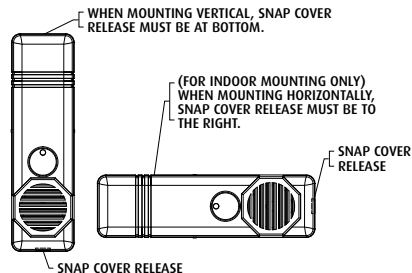

FIG. 2
- Pool Alert must be mounted with snap cover release toward ground or to the right side (Fig. 2).